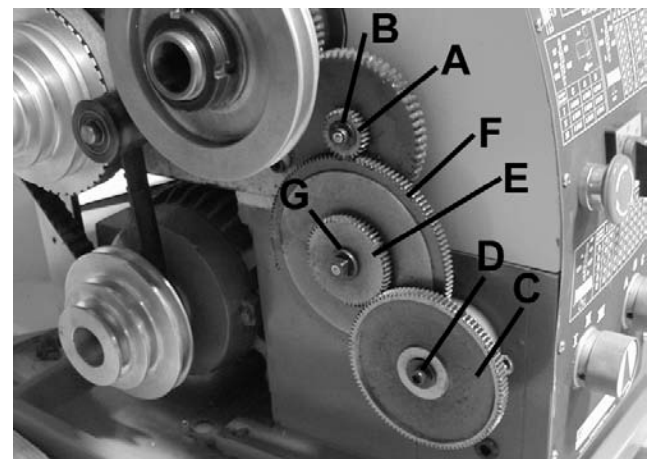

FIGURE 17
To replace the top gear (A) Fig 17, remove "C" clip (B) which holds it in place. Replace with appropriate gear and secure with "C" clip (B).